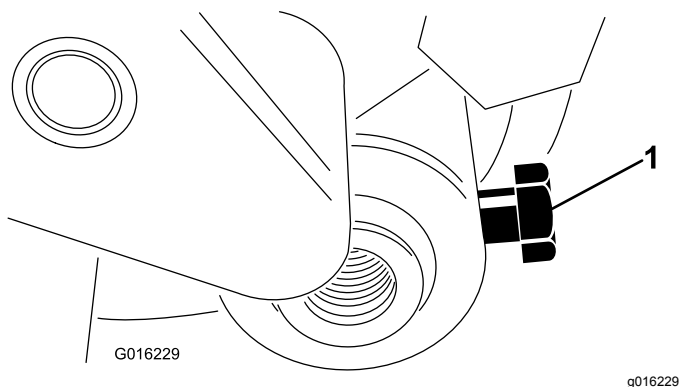

Figure 31
3. Loosen the bolt securing the roller shaft to the height-of-cut arm (Figure 31).